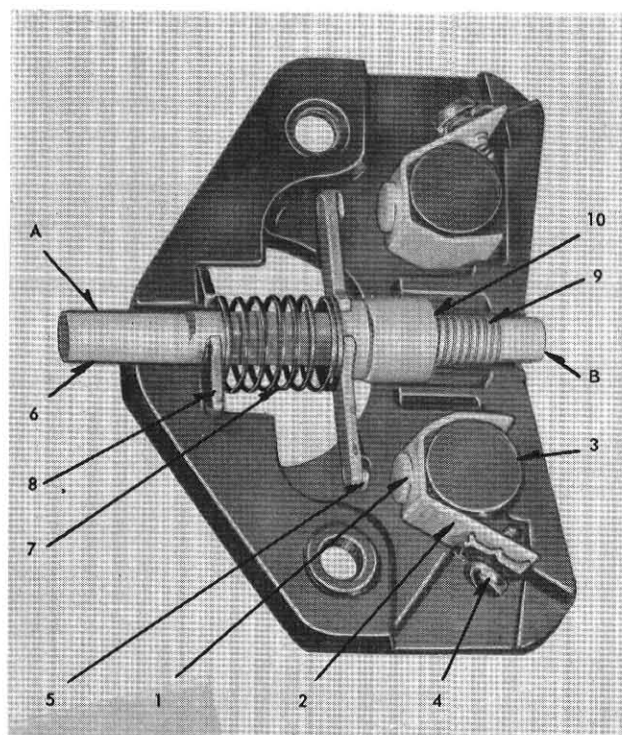

FIG. 3. Internal Parts of Interlock
The L-63 interlock employs a bridging type of contact arrangement as shown in Fig. 3.
2. Move the spring seat (8) against the spring (7), and rotate it about the pushrod until the spring seat snaps and locks into the two triangular shelves in the moulded housing.
3. Note that the contacts are now closed and that the interlock is operated by pushing end "B" (See Fig. 3) of the pushrod.
2. Move the spring seat (8) against the spring (7), and lift it out of the triangular shelves in the moulded housing. Rotate the spring seat about the pushrod until the spring seat snaps into the open position.
3. Note that the contacts are now open and that the interlock is operated by pushing end "A" (See Fig. 3) of the pushrod.